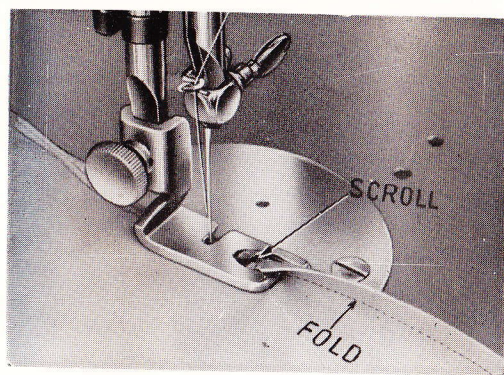

Fig. 28
Turn balance wheel toward you until needle reaches its highest point. Raise presser bar and remove regular presser foot. Attach hemmer foot (Fig. 28).
3. Lower presser foot and begin to sew. Guide material into hemmer foot while proceeding with work (Fig. 28).